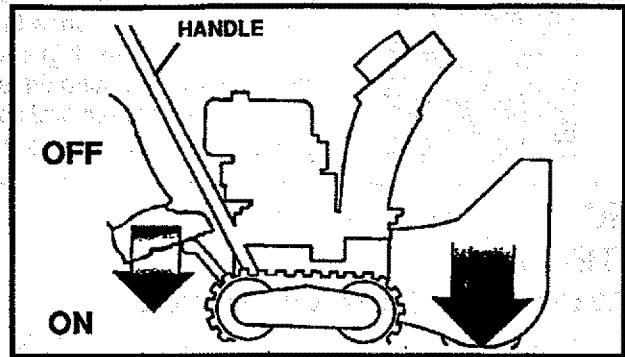

FIG.12
In hard packed or heavy snow conditions, conventional snow throwers tend to ride up and leave uneven mounds of snow behind. For these conditions, your new tracked snow thrower has a unique weight transfer system (See Fig. 12) designed to minimize ride-up.
- To use the weight transfer, hold the upper handle firmly and push down on the weight transfer pedal (See Fig. 12) with the ball of your foot.